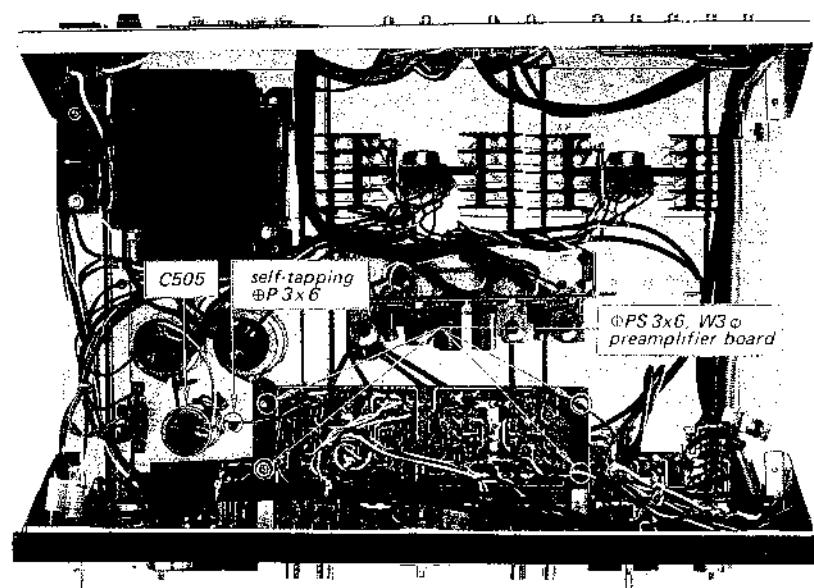

Fig. 2-6 C505 removal and preamplifier removal
3. Remove the self-tapping screw ($\#P3 \times 6$) securing electrolytic capacitor C505 (Fig. 2-6) to the bottom plate, if necessary, then remove the capacitor.
1. Remove the preamplifier board by loosening the four screws ($\#PS3 \times 6$) securing it to its mounting bracket. See Fig. 2-6.